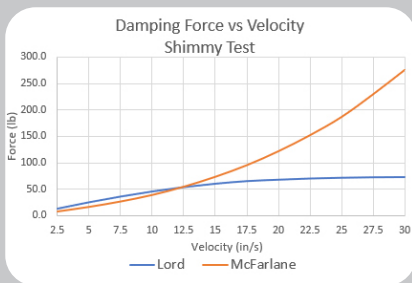

Figure 1
**How Does a Lord® Friction Type Rubber Dampener Work?** The Lord® rubber dampener depends on the friction of the rubber piston against the cylinder wall. Rubber by nature requires a lot more force to start it to move (static friction) than the force required when it is in motion (dynamic friction). By characteristic of rubber sliding on metal, there is little difference in the friction forces when a rubber piston is moved slowly in the cylinder or if it move fast in the cylinder. The friction can actually decrease with the speed of the rubber piston. The Lord® rubber piston is designed where the rubber expands during the change of direction adding more friction that gives it its dampening action. The problem is that as the rubber piston moves back and forth there is increased friction only at the direction change position which is a very small part of the motion cycle. The friction forces during the rest of the shimmy motion cycle is close to the low slow motion (steering) friction forces. The change of direction is only a short part of the travel cycle. With the Lord® dampener, there is a diminishing gain of the dampening action as the speed increases. See Figures 1 and 2.
You can see from the test data charts, Figure 3, that the rubber dampener is going to make the airplane steer harder and be less responsive to pilot inputs. The Figure 1 charts show that at 20 in/sec of motion (a very slow shimmy), the McFarlane dampener has twice the dampening power of the Lord® rubber dampener and at 30 in/sec the McFarlane dampener has 5 times the dampening power. In conclusion, the McFarlane dampener allows more responsive steering and a much stronger dampening action to stop shimmy.